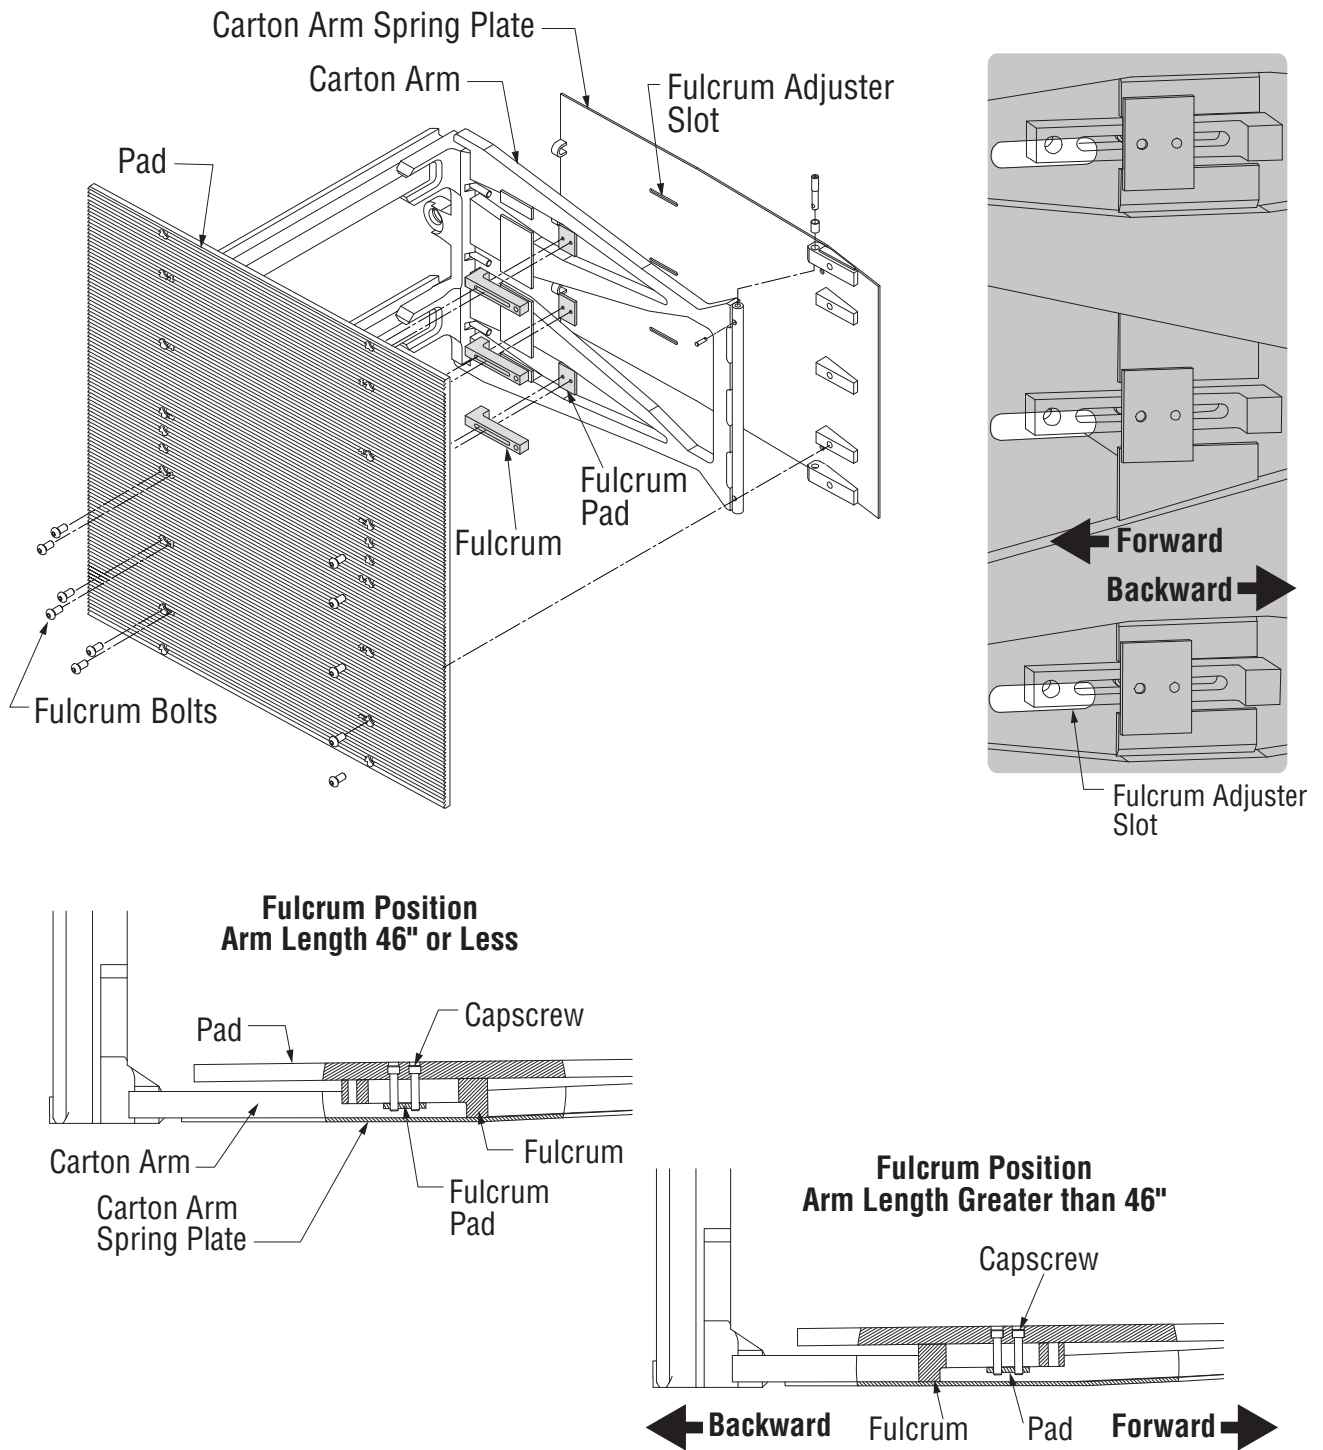

Figure 5-19, Force Adjustment, Adjust-A-Force Clamps Only
1. On the pad side of the arm, loosen all fulcrum bolts, three places per pad, two bolts each. See Figure 5-19.